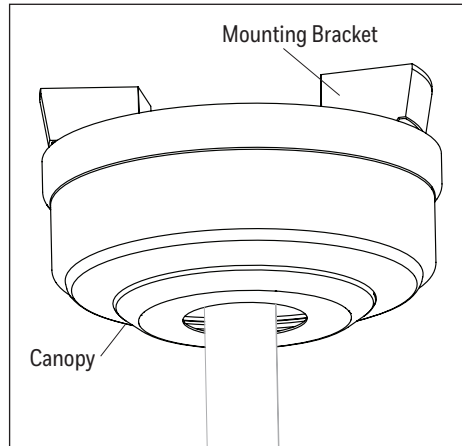

Figure 5.2
- Lift the canopy, ensure the magnets at the bottom of the mounting bracket secure the canopy in place (Figure 5.2).